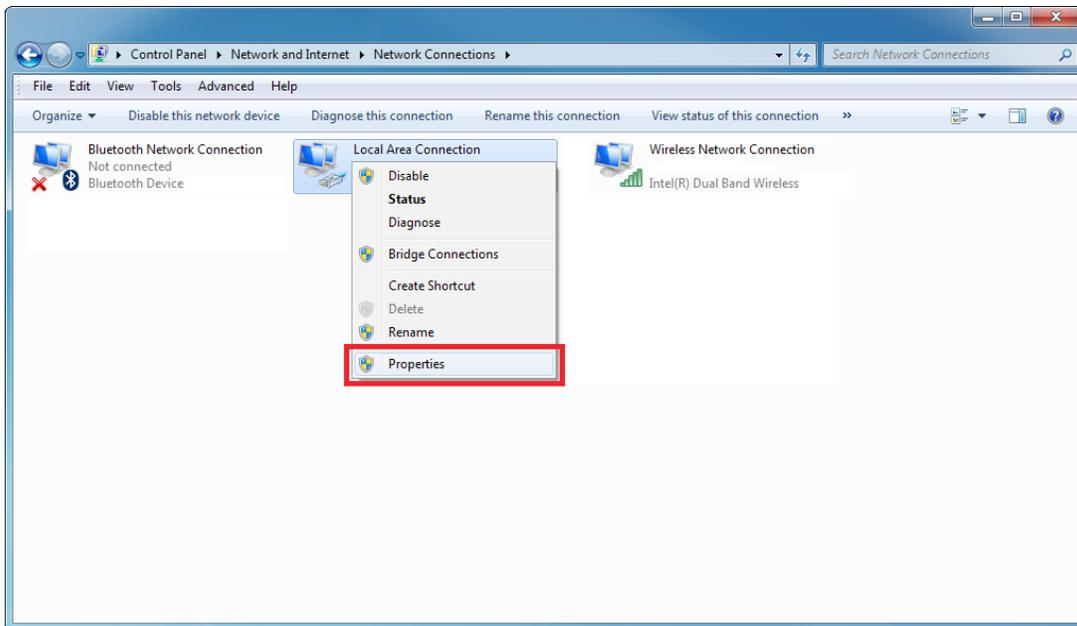

Figure 13 – Local Area Connection “Properties” selection
5. Right-clicking the “Local Area Connection” icon will bring up a sub-menu. Select “Properties” from the sub-menu (shown in Figure 13 below).